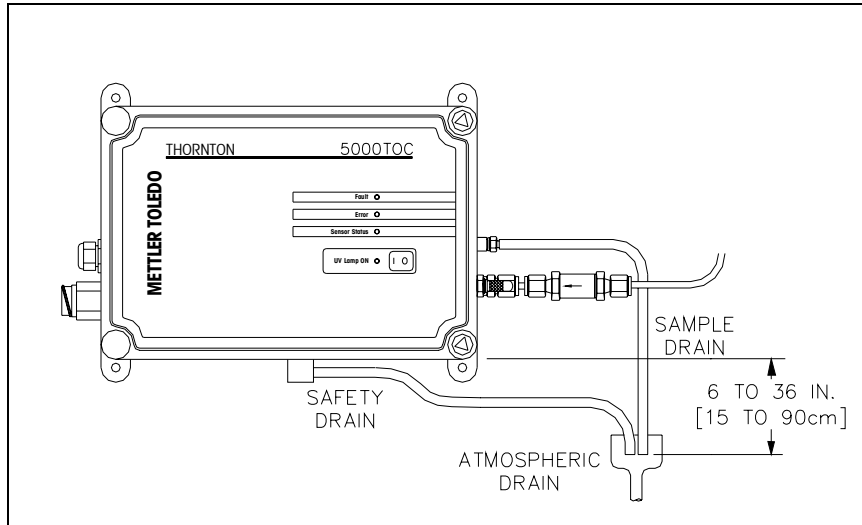

Figure 3. High Capacity Inlet Filter.
2. Sequentially remove the compression nuts from both ends of the high capacity inlet filter. See Figure 3.